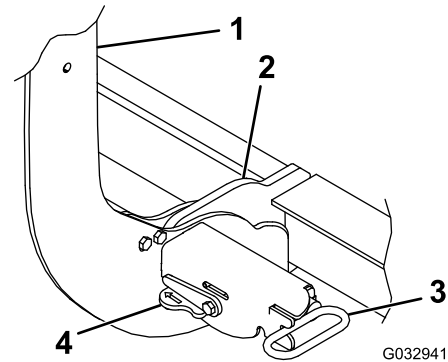

Figure 22
4. Turn the levers on the couplers to the OFF position (Figure 22).